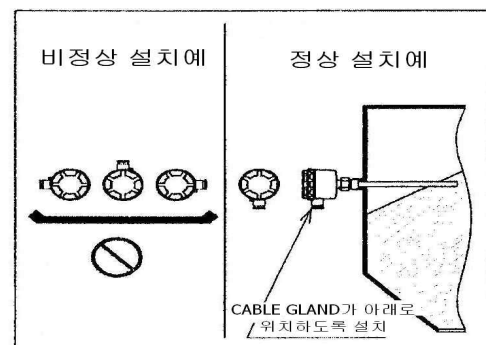

Fig 5-8
(8) Properly tighten the cover and treat the cable gland. Water entering inside may cause faulty operation. The IP rating (IP65 or equivalent) is achieved only when the cover is properly tightened and the cable inlet properly treated. If the product is mounted horizontally, ensure the cable inlet points downwards. (Fig. 5-8)